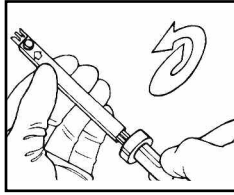

Figure 2
4. Turn the Anastomotic Instrument knob fully counterclockwise, and then insert the FLOW COUPLER onto the Anastomotic Instrument while FLOW COUPLER is still in tray. **The matching indicator arrows on the FLOW COUPLER and the Anastomotic Instrument should be pointing toward each other when loading** (See Figures 2 & 3). **Ensure that an audible click is heard for proper loading.**